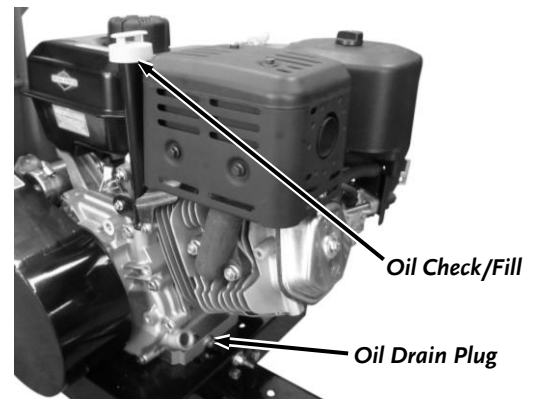

Figure 41a: Pro-475
1. Position a suitable oil receptacle under the engine oil Drain Plug and remove the Engine Oil Check/Fill Cap (**Figure 41a or 41b**).